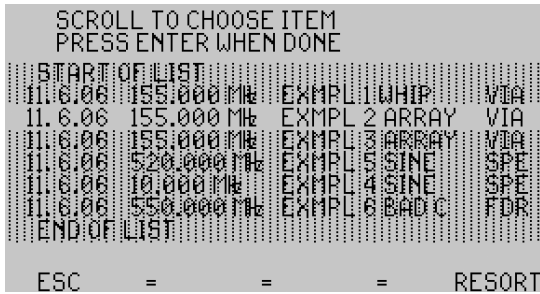

Figure 6-5
**VIEW THIS LIST** – Press either ► key, with no sorting parameter's selected, will present the entire list of stored plots in chronological order. The list will have the earliest stored plots at the top of the list and the latest stored plots at the bottom of the list and will display the list showing the latest plots stored. See figure 6-5
When in the memory lists, the F-Keys work as soft keys and correlate to the action items shown in the bottom row of the LCD. See figure 6-5.